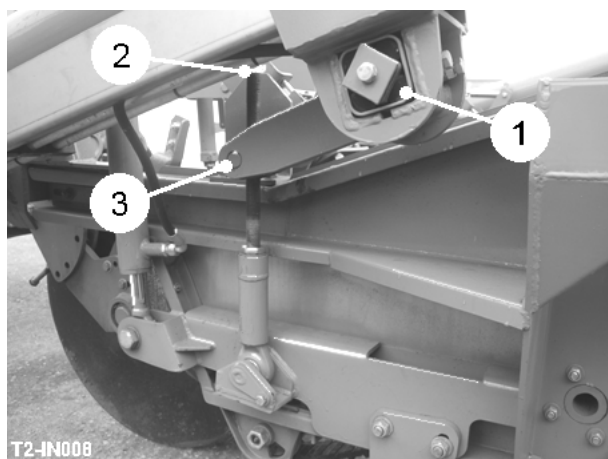

Fig 9
If required, the digger assembly can be suspended on the rubber torsion blocks (item 1, fig 9). This is normally set to act when the digger is operating in conditions where the soil pan is close to the digging depth and the maximum depth needs to be limited.
The suspension is set with the digger at maximum depth. Release the lock nuts (item 2, fig 9), and wind them down to the top of the trunnion (item 3, fig 9). Continue to wind down the nuts equally on both sides, one full turn at a time, until the required 'carry off' is reached with maximum digging depth still retained. Finally, retighten the lock nuts.